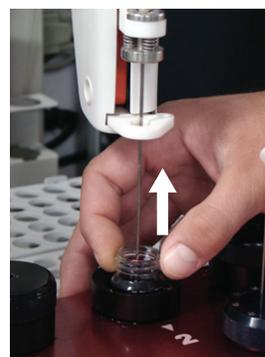

Figure 5. Check the distance between the bead vial bottom and sipper tube.
- Remove the quad stirrer propeller from particle reservoir 1 and place an empty bead vial into it. Under **Bead Vial 1**: select the **Go** button under the **Top** column to position the sipper tube over particle reservoir 1. Set the **Z:** parameter to 130 (**Figure 1.3**) and click **Go**. Gently lift the bead vial to test the distance between the bottom of the bead vial and the sipper tube (**Figure 5**). Increase the **Z:** parameter by increments of 1 until the sipper tube is directly on the bottom of the bead vial, but does not crash into the vial. Repeat this for particle reservoir 4. Use the lesser **Z:** parameter value as your "**Z-Max**" (**Figure 1.4**).